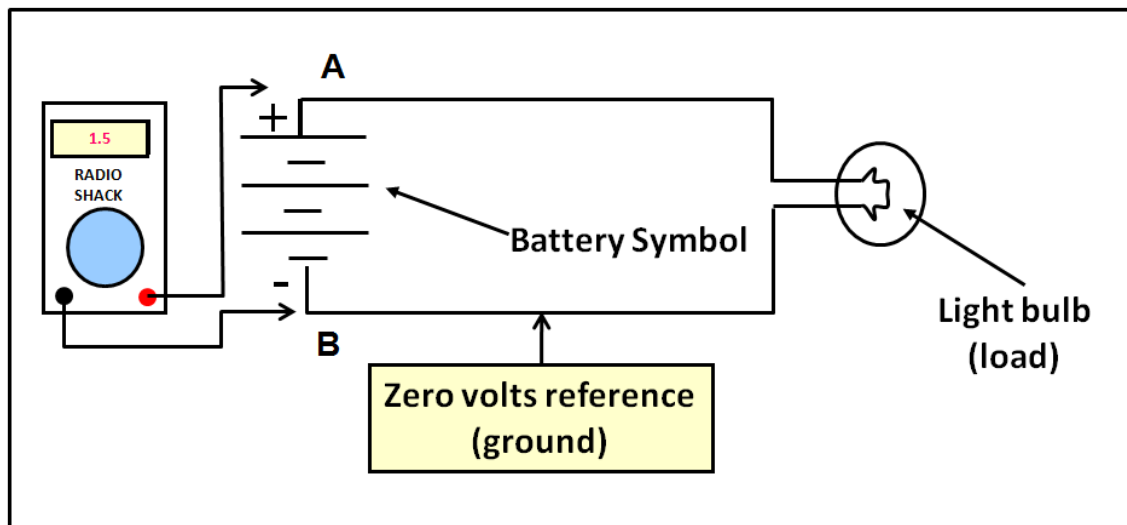

Figure 2.21 A simple battery circuit illustrates Ohm's Law.
Consider figure 2.21, below. By placing out trusty digital voltmeter across the terminals of the battery we can see that the 1.5 volts produced by the battery is also appearing across our load (the light bulb).
Here the same battery from figure 2.21. Note, you better read this quickly before the battery runs out of "juice." The current,  $I$ , flows from the positive terminal of the battery (A) through the two resistors,  $R_1$  and  $R_2$ , then back into the negative terminal of the battery (B). As an aside, the symbol used to represent resistors in schematic diagrams is a jagged line. There are different interpretations for why that is. Some say it represents a difficult path for the current to travel along, hence, resistance. Others (me included), are in the camp that believe it looks like the way resistance wire is strung inside space heaters and toaster. You are free to develop your own theory.